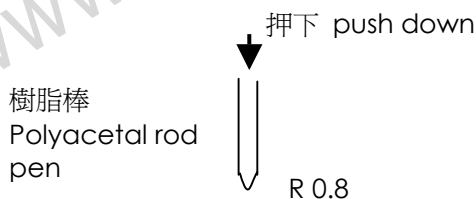

Fig.1 筆輸入 by pen 觸控面板 TOUCH
- 筆尖端 Shape of pen end : R 0.8 (Refer Fig.1)